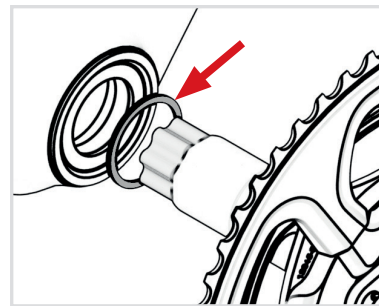

FIG. 1
- Install the corresponding spacers onto the drive side axle (Fig. 1 and Fig. 11) and apply a small amount of grease to the contact surfaces of the bearing/axle. Due to tight tolerances the axle/bottom bracket can be difficult to install if not inserted straight. Carefully align the spindle with both bearings and with a slight rocking motion use light pressure to fully seat crank in the bottom bracket. Make sure that the Non-Drive Side bottom bracket does not come loose or even come out of the BB shell.